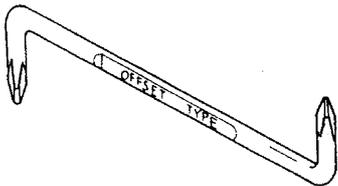

**Fig.1**
1. A long straight screwdriver cannot be used for removal or mounting since its long grip interferes with the neighboring P.C.B.(See Fig.1)